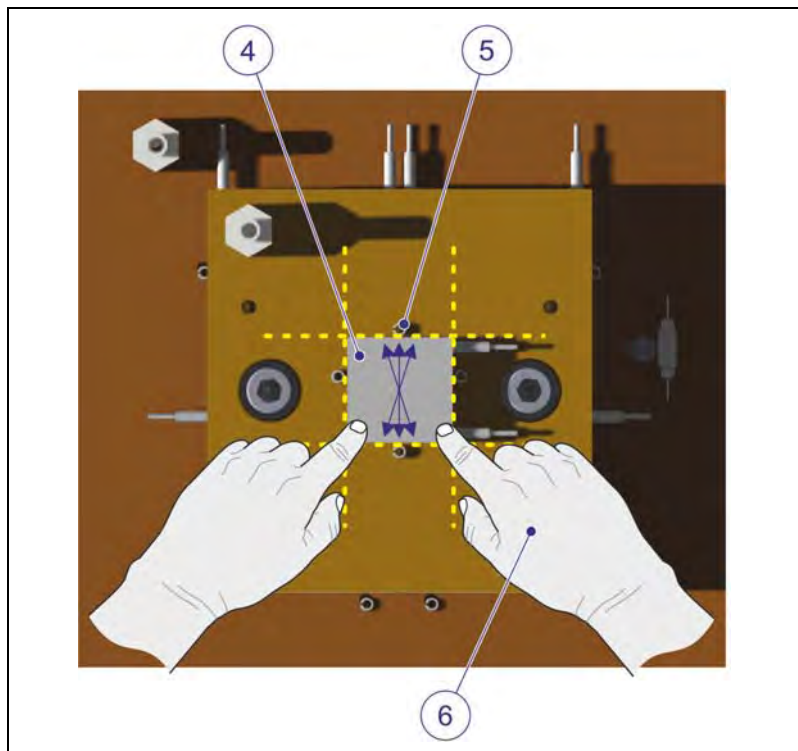

Figure 10.14: Install Peltier element of the measuring cell
☞ Apply a sufficient amount – but not too much – thermally conductive paste on the pre-stage (3). Use a glove, for example, to fill the area between the alignment aids (5 - Figure 10.14 on page 124) of the Peltier element.